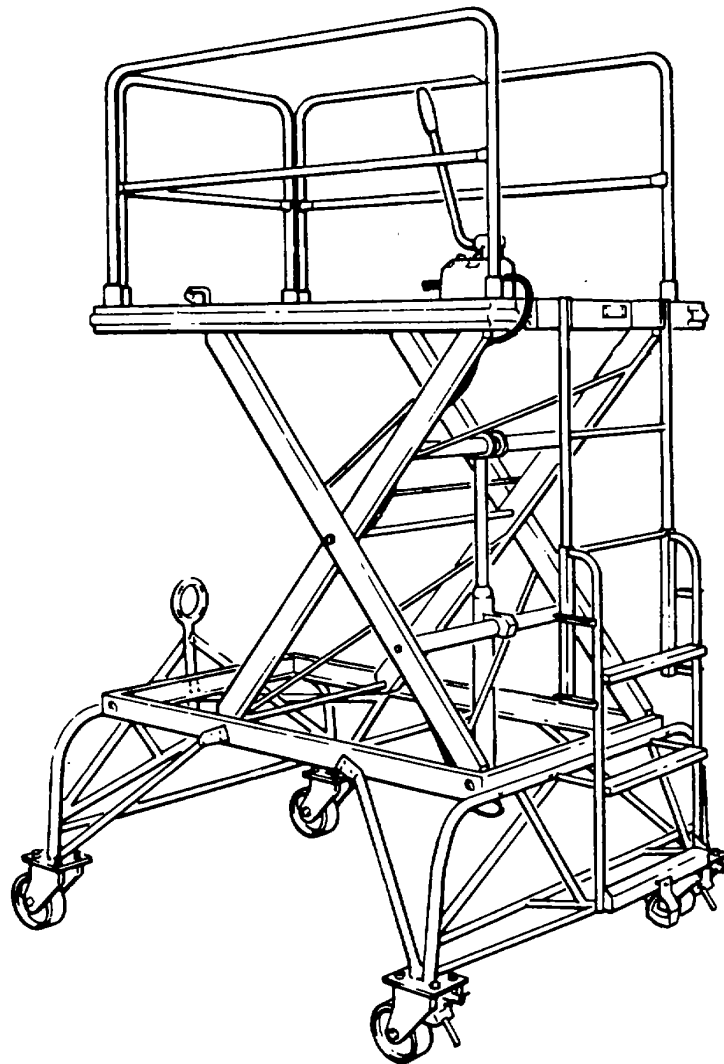

Figure 9-2. Type B-4A Maintenance Stand
(2) *Folding maintenance stand, type B-4A.* The B-4A maintenance stand, shown in figure 9-2, is an adjustable platform and ladder assembly mounted on a caster-equipped base. The maintenance stand is hydraulically raised and lowered.